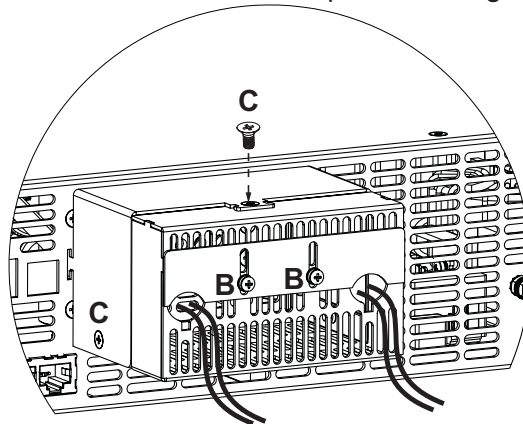

Fig.3-10: Enclosure assembly
6. Assemble the enclosure bottom cover to it's place, as shown in Fig.3-10, using screws "C", 3 places (tightening torque 4.8-5.3 Lb-inch).